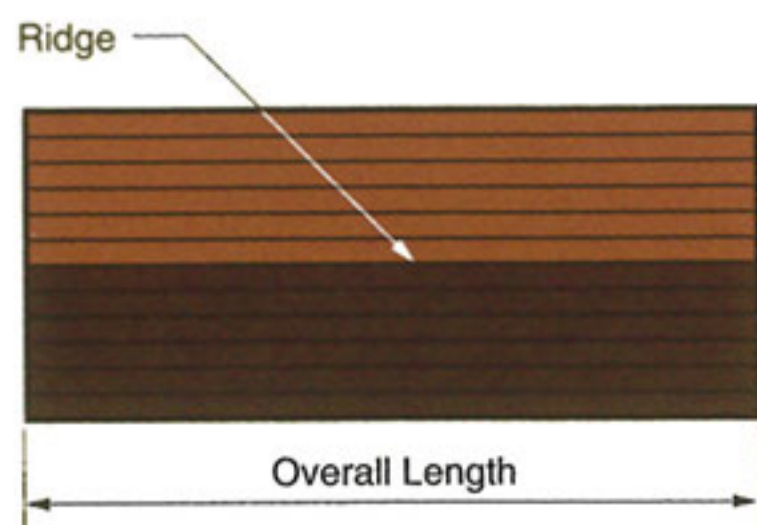

Fig 5.1.2
- Determine the overall length of the roof (Fig 5.1.2) and refer to Table 5.1 for the number of tiles required. Ensure that fractional tiles are counted as whole tiles.